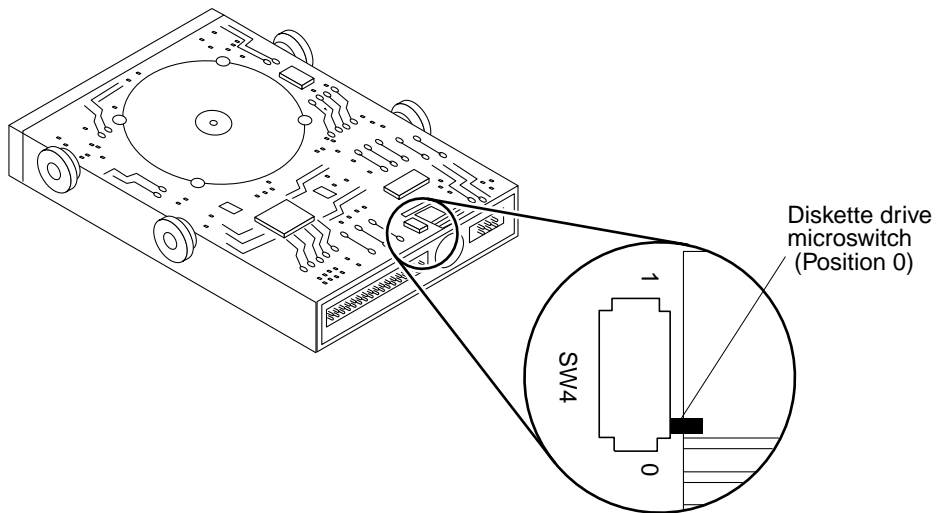

FIGURE 9-12 Setting the Diskette Drive Microswitch on the PCB to Position 0
- b. If the diskette drive does not have a switch on the side of the drive, it has a microswitch on the printed circuit board side of the drive. Set the microswitch to Position 0 as shown in FIGURE 9-12.**